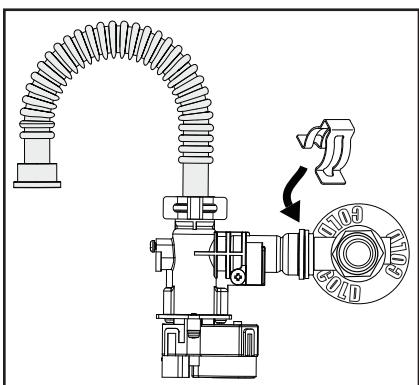

Figure 52 - Install Smart Valve to Cold T-nipple
**14** Carefully install Smart Valve inlet to cold t-nipple. Remove one (1) spring clip from kit. Install spring clip over Smart Valve inlet and cold t-nipple to secure Smart Valve. See Figure 52.